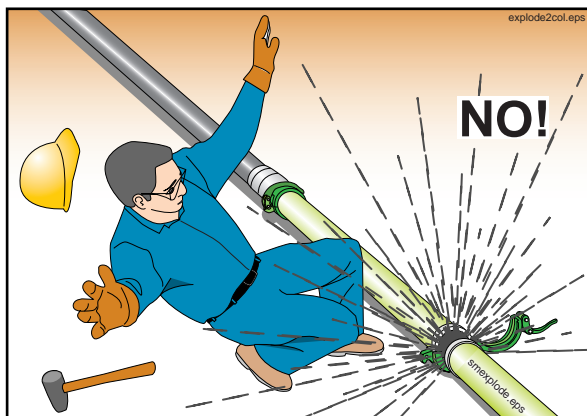

Figure 17
2.9 **⚠️WARNING!** Never open a pressurized pipeline (Figure 17). The pump operator must release the pressure before you open the line. If the line is pressurized with compressed air, let the operator release the pressure and verify that the air has escaped before you proceed.